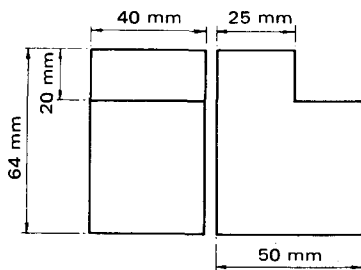

Fig. 3.142
1. Make isometric drawings of the objects shown in Figs. 3.142, 3.143, 3.144 and 3.145.
2. Make oblique drawings of the objects shown in Figs. 3.142, 3.143, 3.144 and 3.145.